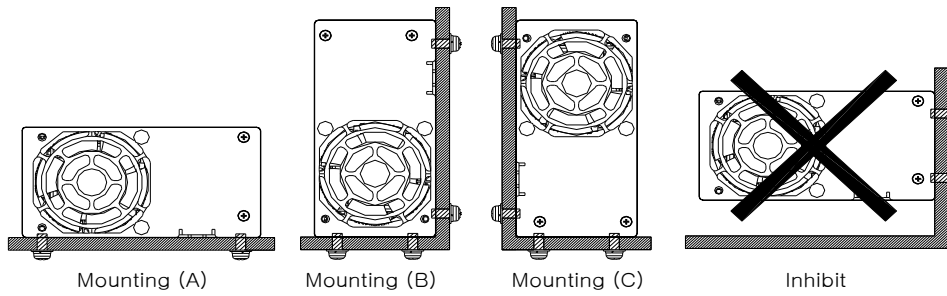
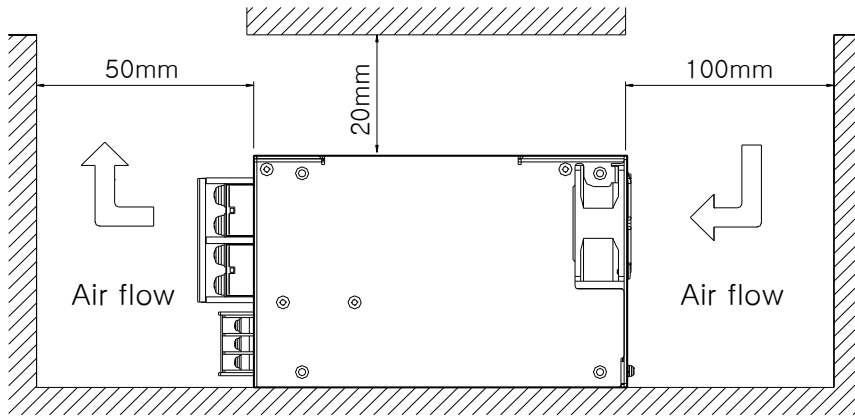

Fig 4. Installation
Fig 6.
4-2. In parallel operation A at Figure 4, current capacity cannot be increased, while it should be used for backup only. Moreover, diode that is to be added during parallel operation should be selected after considering its voltage drop (Vf), output voltage (Vo) and current capacity (Io).
- o Mounting method should be considered with airflow as shown in Fig4, Fig5, Fig6